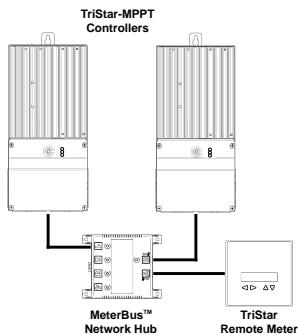

Figure 5-1. An example MeterBus network.
A MeterBus Hub (model: HUB-1) is required for MeterBus networks containing multiple TriStar MPPT 150V controllers. The ports on the hub are electrically isolated to prevent damage in the event of broken grounds or voltage differences between controllers. Figure 5-1 below shows an example MeterBus™ network with two (2) TriStar MPPT 150V controllers and a TriStar Remote Meter 2 (TS-RM-2).